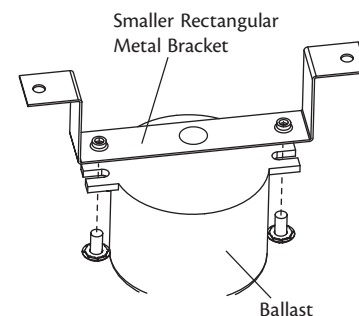

Figure 21 - Attaching the bracket to the ballast
1. Feed the two plug connectors -- female plug first then male plug -- from the ballast through the center hole of the smaller of the two rectangular metal brackets. Refer to Figure 21.
2. Attach the metal bracket to the ballast with two #10-32 x 3/8" screws as shown in Figure 21.